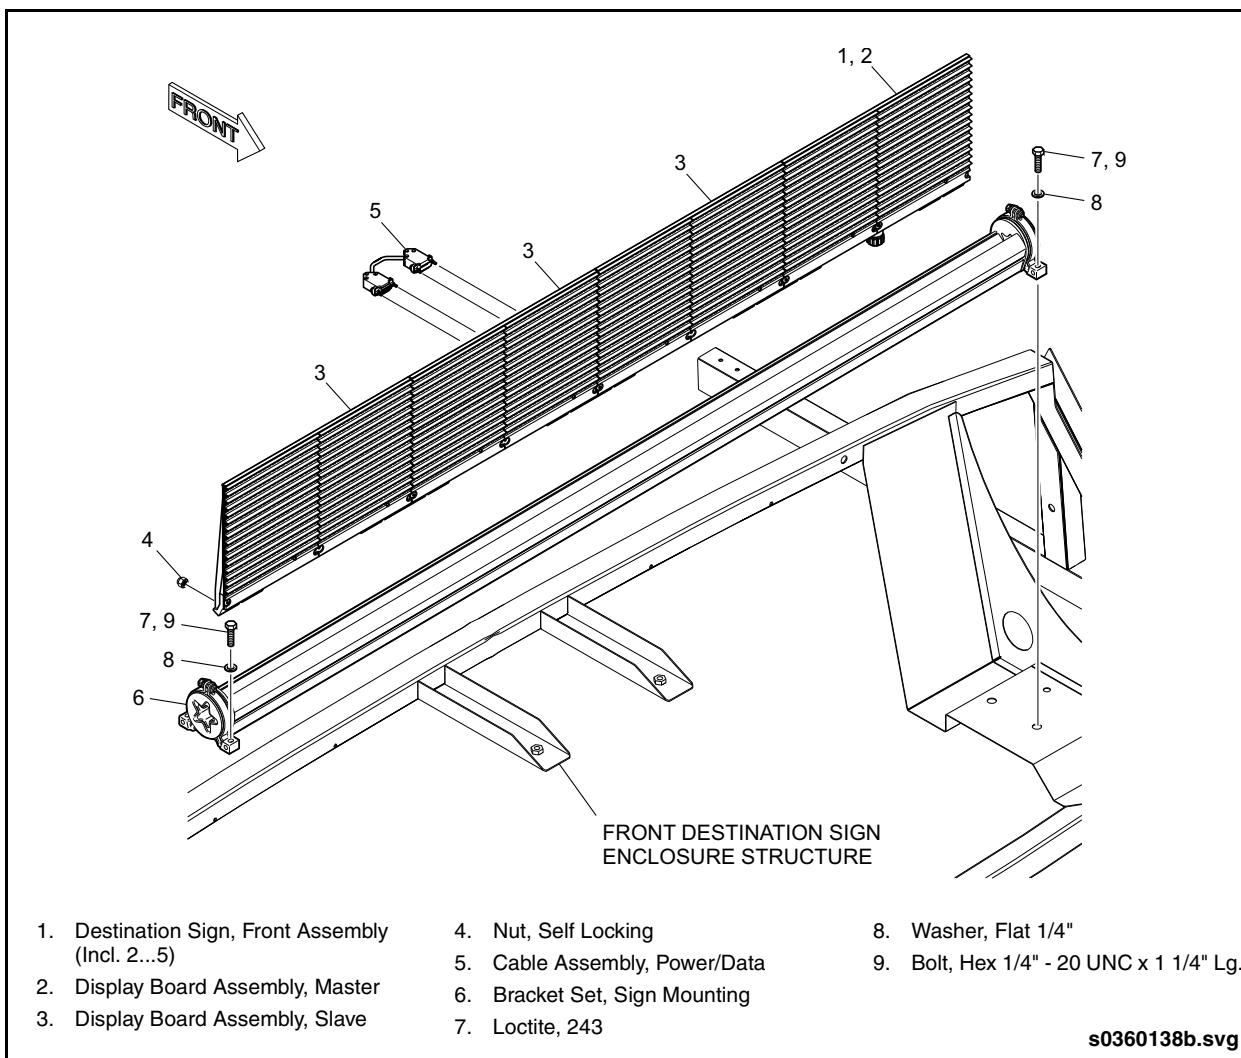

Fig. 18-2: Front Destination Sign Installation
4. Remove two nuts and washers from either end of the mounting support bar. See "Fig. 18-2: Front Destination Sign Installation" on page 7.